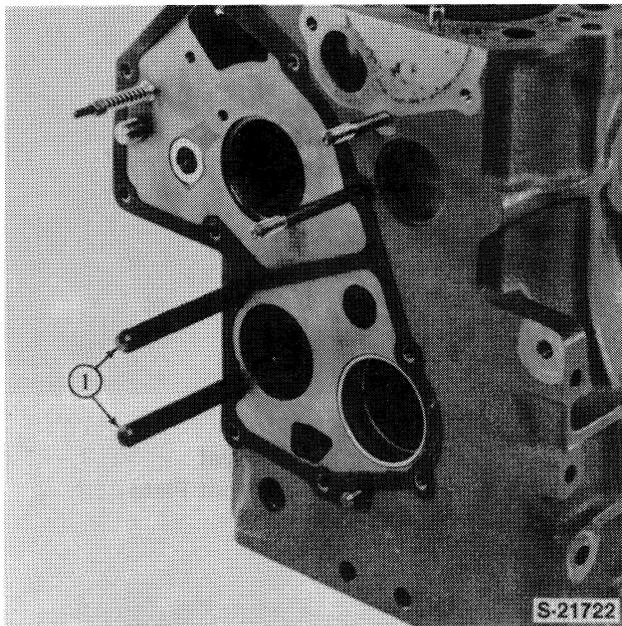

Figure 46
1. Using Tool No. 11063A screw the threaded pins (1) 11044, into the engine block as shown, Figure 46.